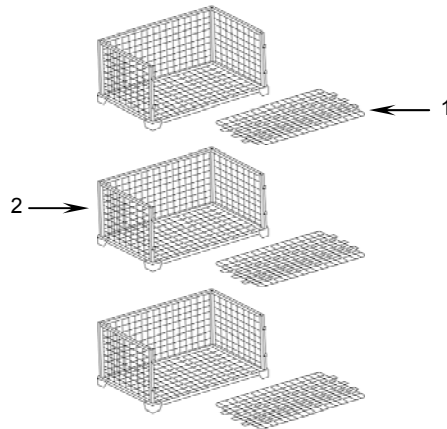

Figure 42. Disassembling the Storage Rack Assemblies.
- a. Remove the shelves (front cover) (**Figure 42, Item 1**) from the storage rack assemblies.
- b. Disassemble the stacked rack units (**Figure 42, Item 2**).